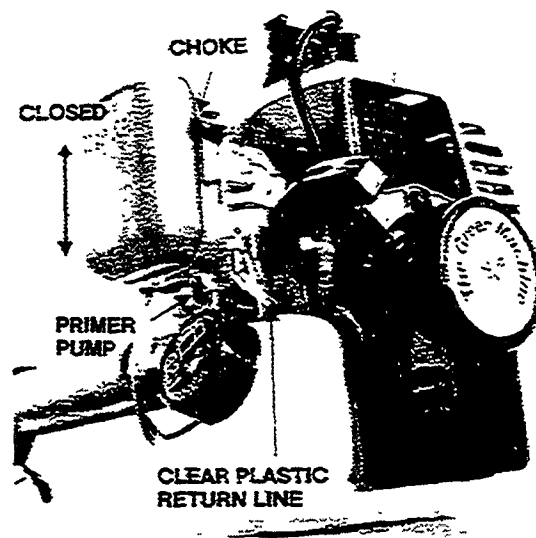

Figure 5
- Push the primer pump until fuel flows through the clear plastic return line **(Figure 5)**.
- Place choke lever in the closed position **(Figure 5)**.